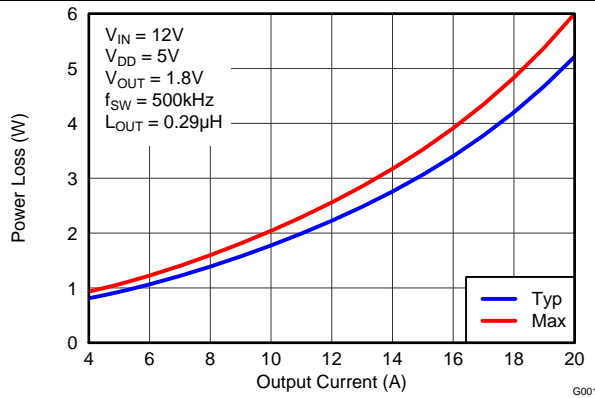
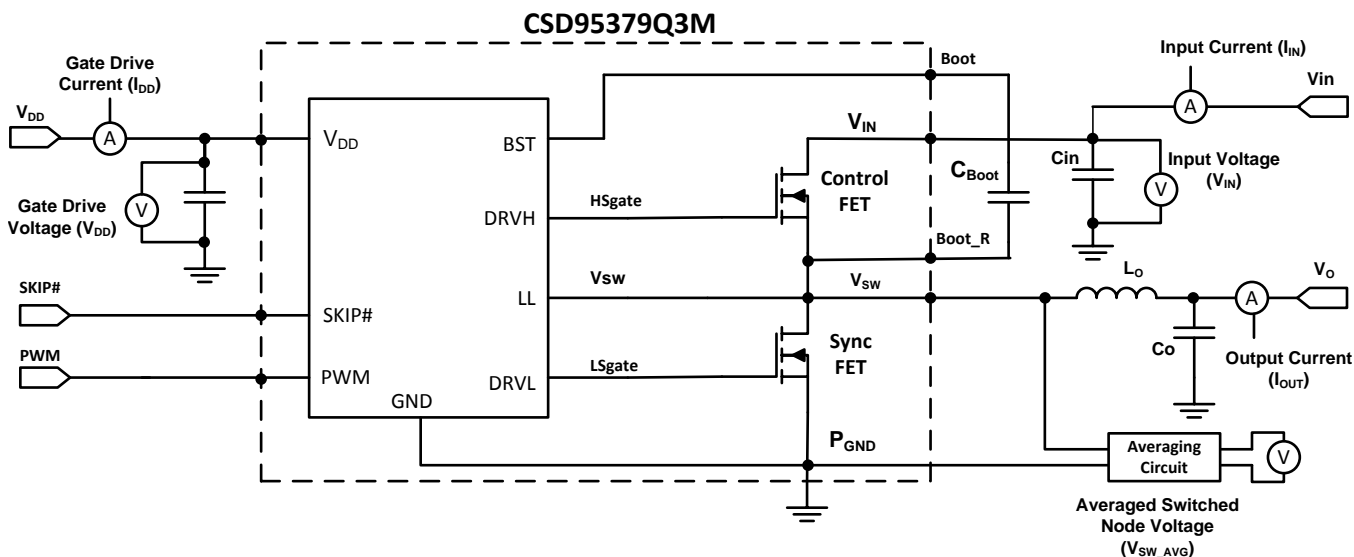

Figure 1. Power Loss vs Output Current
Figure 12. Power Loss Test Circuit
MOSFET-centric parameters such as $R_{DS(ON)}$ and Q_{gd} are primarily needed by engineers to estimate the loss generated by the devices. In an effort to simplify the design process for engineers, TI has provided measured power loss performance curves. Figure 1 plots the power loss of the CSD95379Q3M as a function of load current. This curve is measured by configuring and running the CSD95379Q3M as it would be in the final application (see Figure 12). The measured power loss is the CSD95379Q3M device power loss which consists of both input conversion loss and gate drive loss. Equation 1 is used to generate the power loss curve.
The power loss curve in Figure 1 is measured at the maximum recommended junction temperature of $T_J = 125^\circ\text{C}$ under isothermal test conditions.
- Typical Power Loss at 10 A = 1.8 W (Figure 1)